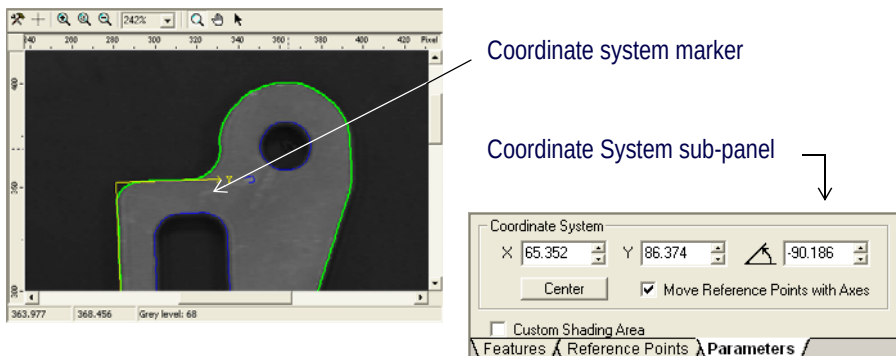

Figure 90 Adjusting the Position and Orientation of the Model Coordinate System
3. Use the mouse to position the coordinate system marker (yellow axes) over the object, as shown in Figure 90.